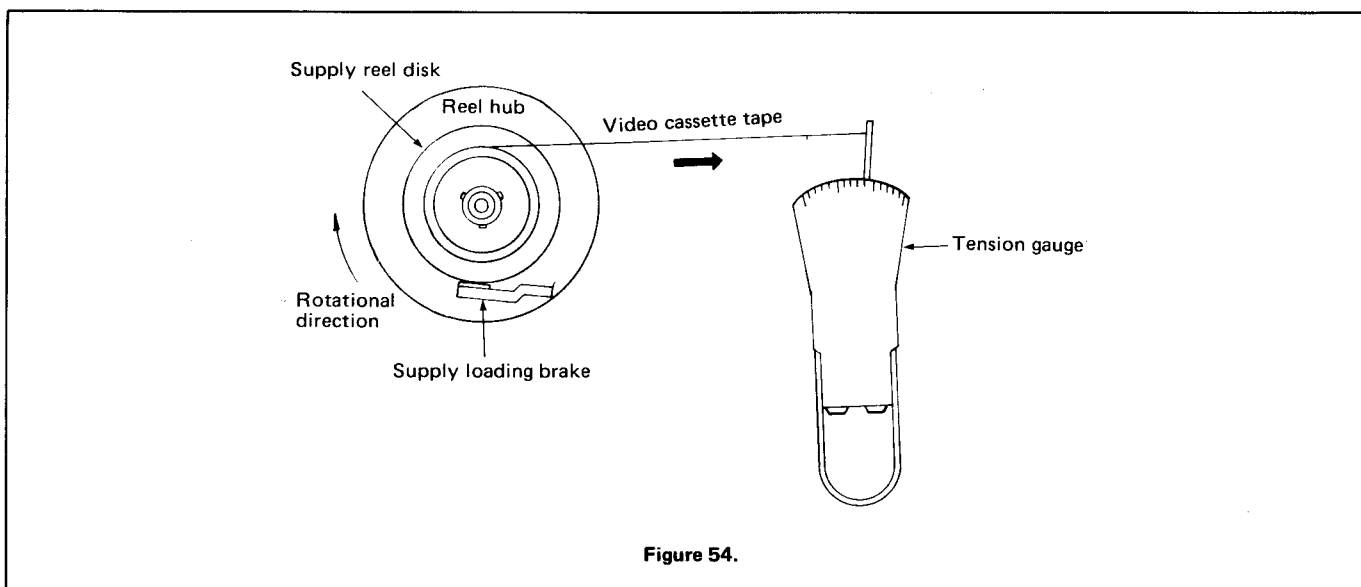

Figure 54.
3. Set the reel hub (with several turns of a tape on it) on the supply reel disk, as shown in Fig. 54.